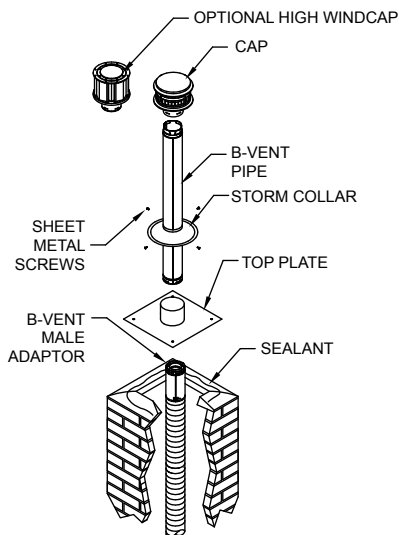

Figure 17
up to 50 feet of Flex or B-Vent Liner. Refer to **Figure 17**.
Step 4. Seal the Storm Collar to the Top Plate and twist-lock the B-Vent top to the B-Vent pipe. As an alternative to the standard cap, you may want to install a B-Vent High-Wind Top in areas where excess wind may be a concern (**Figures 17 & 18**).